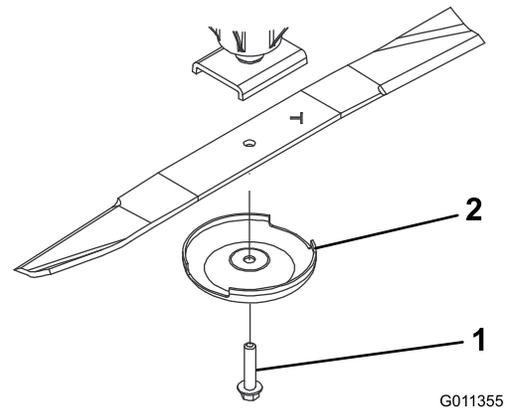

Figure 70
3. Grasp the end of the blade using a rag or thickly padded glove and remove the blade bolt, anti-scalp cup, and blade from the spindle shaft (Figure 70).
4. Install the blade with the sail facing toward the cutting deck, with the anti-scalp cup and blade bolt (Figure 70).